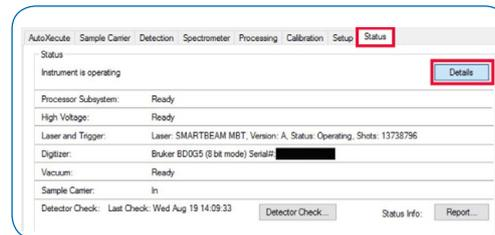

Figure 4.1 Status window in flexControl
- Go to the “Status” tab and click on “Details” (see Figure 4.1)